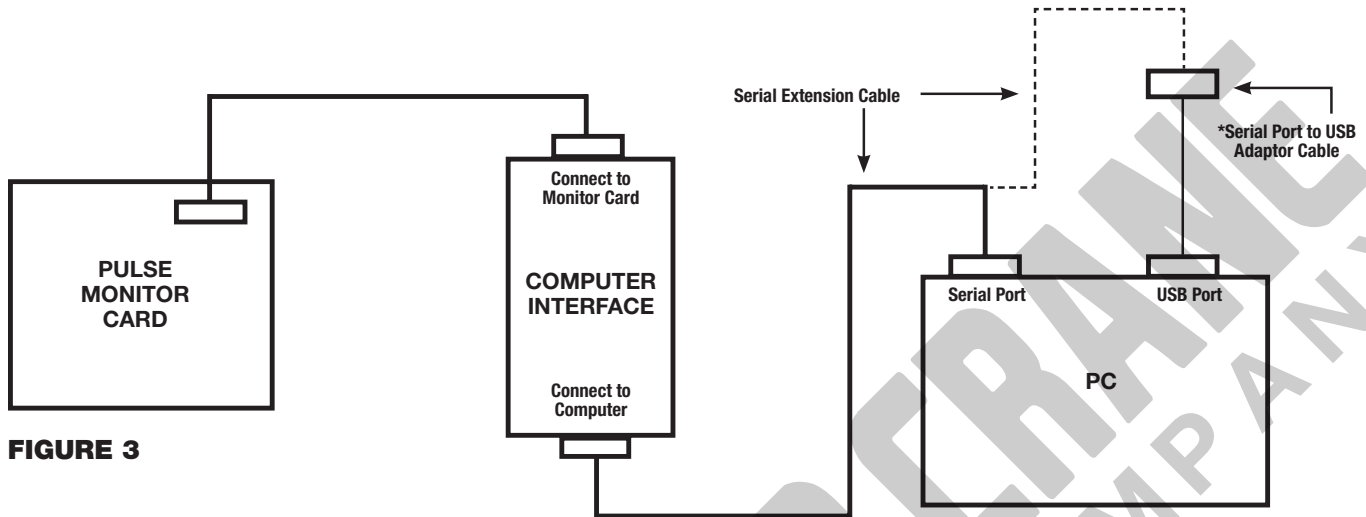

FIGURE 3
Initial programming can be done before or after the Pulse monitor card is installed. Open the Pulse software on your computer and connect the Pulse monitor card as shown in Figure 3. It is recommended that the following parameters be set before collecting any data.
- a. Connect the Pulse monitor card, computer interface, PC and serial extension cables as shown in Figure 3.